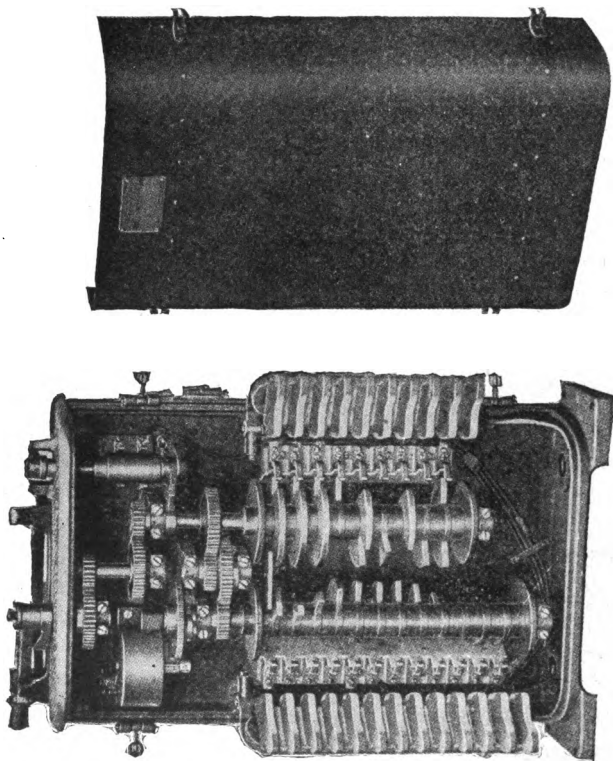

Fig. 514. Master Controller.
61. THE MASTER CONTROLLER (Fig. 514) contains two movable cylinders, which are geared together, and stationary contacts for each mounted on insulation supports. The function of the controller in general is to supply current at the will of the engineer to the train cable for operating the reversers and contactors. The primary or slow-speed cylinder operates the contactors which produce motor combinations. The secondary or high speed cylinder operates those contactors which cut out the main motor resistance. The secondary cylinder is geared to primary at the ratio of about three to one. Geared to cylinders is a governor device, by means of which the movement of the controller handle and the cylinders is checked when current through the motors exceeds a certain amount. The controller has a separate reverse cylinder, and there is a separate handle, for this. The reverse handle can be thrown only when the controller handle is in the "off" position. The "off" position of the controller handle is indicated and is the extreme forward position of handle. There are twenty-four operating notches and an "off" point on the controller dial ring. A latch on the handle engages the notches on the dial ring and has to be released in moving from notch to notch. The first ten operating notches are for series, the next seven for series parallel and the next seven for parallel operation of motors. The tenth notch is full series, the seventeenth full series parallel and the twenty-fourth full parallel position of motors, and at all other points motors will have resistance in circuit.